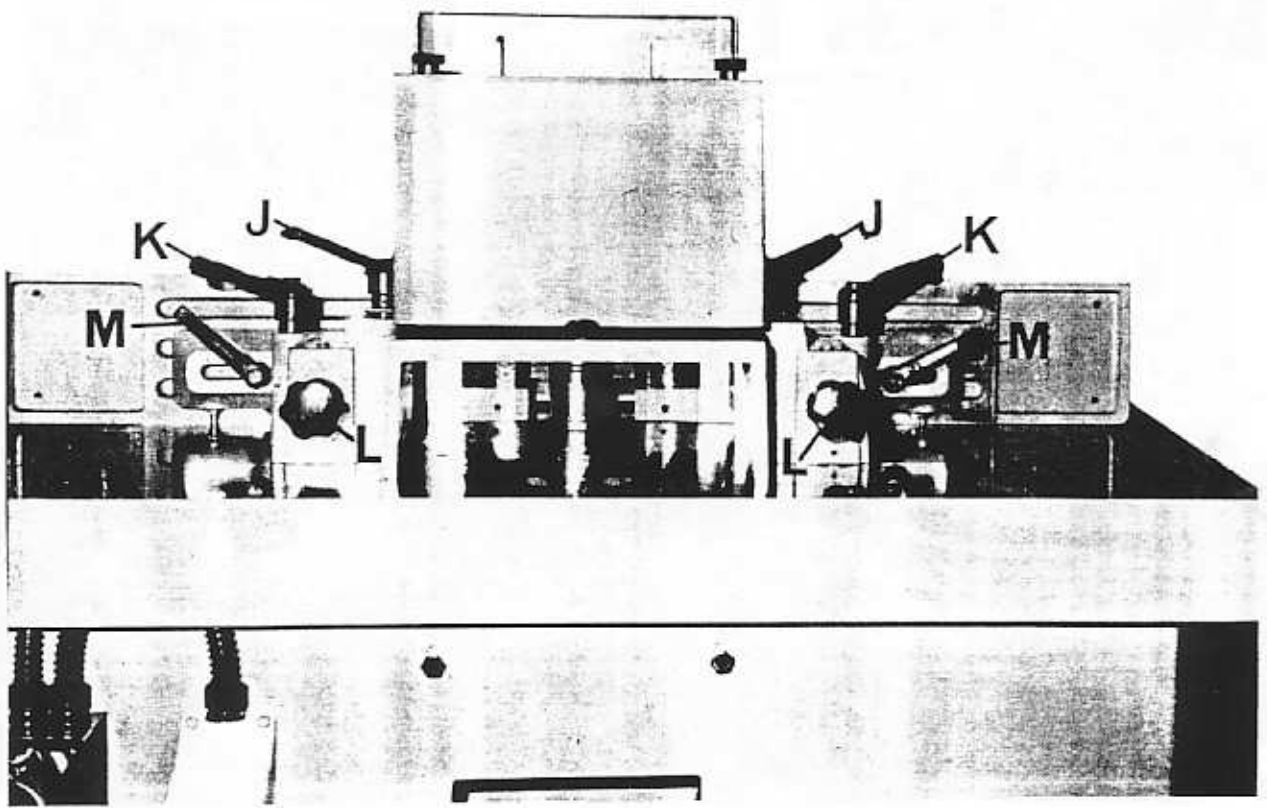

FIG. 9
- a) For complete movement of fence, loosen locking handles "J" FIG.9 and position fence as required, relock locking handles "J".
- b) To independently adjust fence plate, loosen locking handle "K" FIG.9 and turn the appropriate handwheel "L". When set, relock locking handle "K".
- c) For lengthwise movement of fence plates, loosen locking handle "M" FIG.9, position fence plate as required, then tighten locking handle "M".